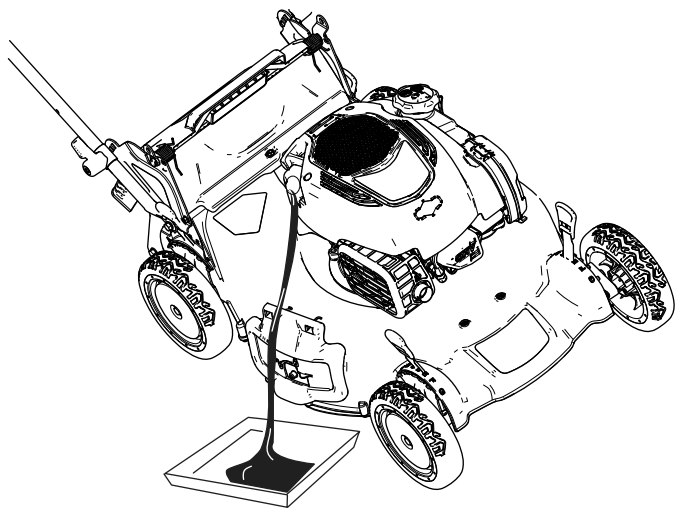

Figure 34
- 4. Tip the machine onto its side (so that the air filter is up) to drain the used oil from the oil-fill tube (Figure 34).